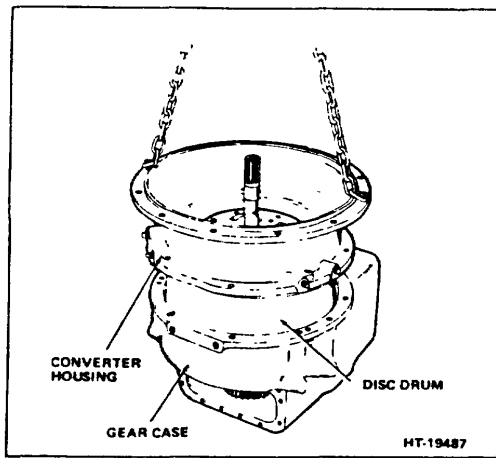

Figure 5. Removing Housing and Drum
3. Lay the transmission on the gear case side as shown in Figure 5. Remove capscrews which mount the converter housing to the gear case. Then, attach a chain to the housing and remove housing and disc drum assembly as a unit, taking care not to damage the seal rings in collector ring on gear case.